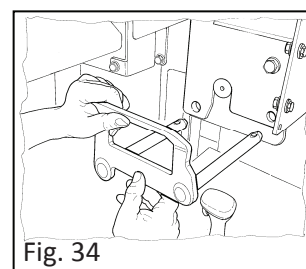

Fig. 34
3. Extract the U-bar supporting the hydraulic cylinder. (Fig. 34)